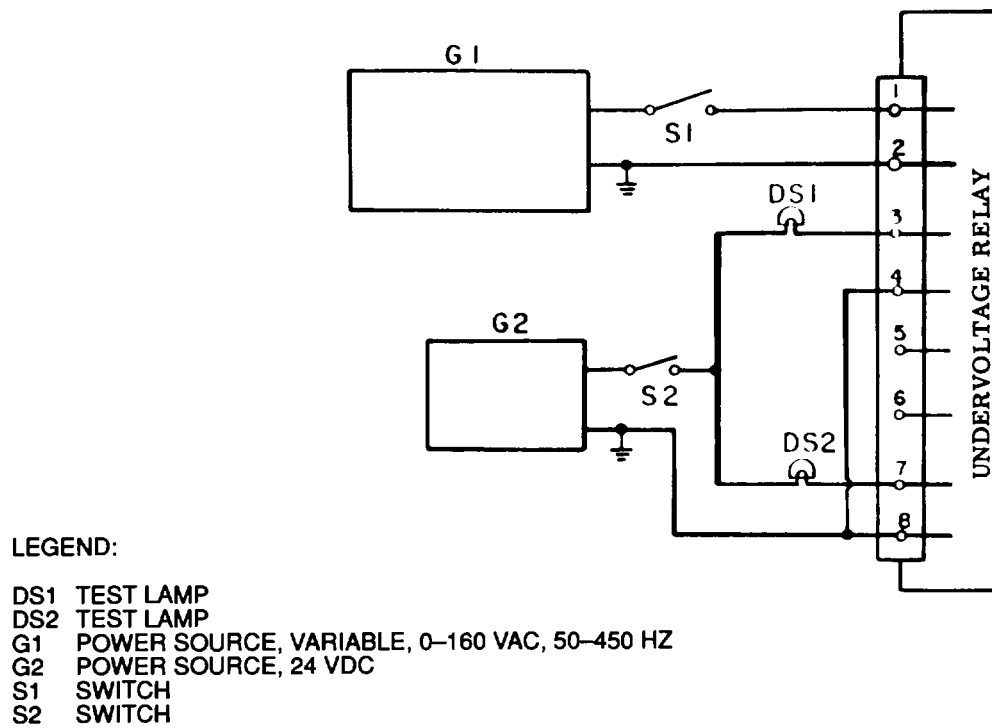

Figure 3-124. Under Voltage Relay Test Circuit
- (1) Clean precise relay assembly with filtered compressed air and a soft bristle brush. If necessary, caked deposits may be removed with a clean, lint-free cloth moistened with solvent P-D-680 Type II. Dry thoroughly after cleaning with solvent.
- (2) Visually inspect cover and chassis for cracks, corrosion, warping, defective paint and illegible markings.
- (3) Inspect wiring harness for damaged wires and connectors for bent or broken connector pins and burned areas indicating shorts.
- (4) Inspect switch (50/60 Hz only) for cracked casing, burns, corroded terminals and other damage.
- (5) Inspect relays for cracked casing, corroded terminals, and evidence of shorting or other damage.
- (6) Inspect resistors and capacitors of electronic components assembly for insecure mounting and burns or other evidence of shorting.
- (7) Inspect terminal board assembly for cracks, corroded terminals, damaged terminal jumpers and evidence of shorting.
- (8) Test under voltage relay as follows:
- (a) Install relay in test circuit shown in figure 3-124.